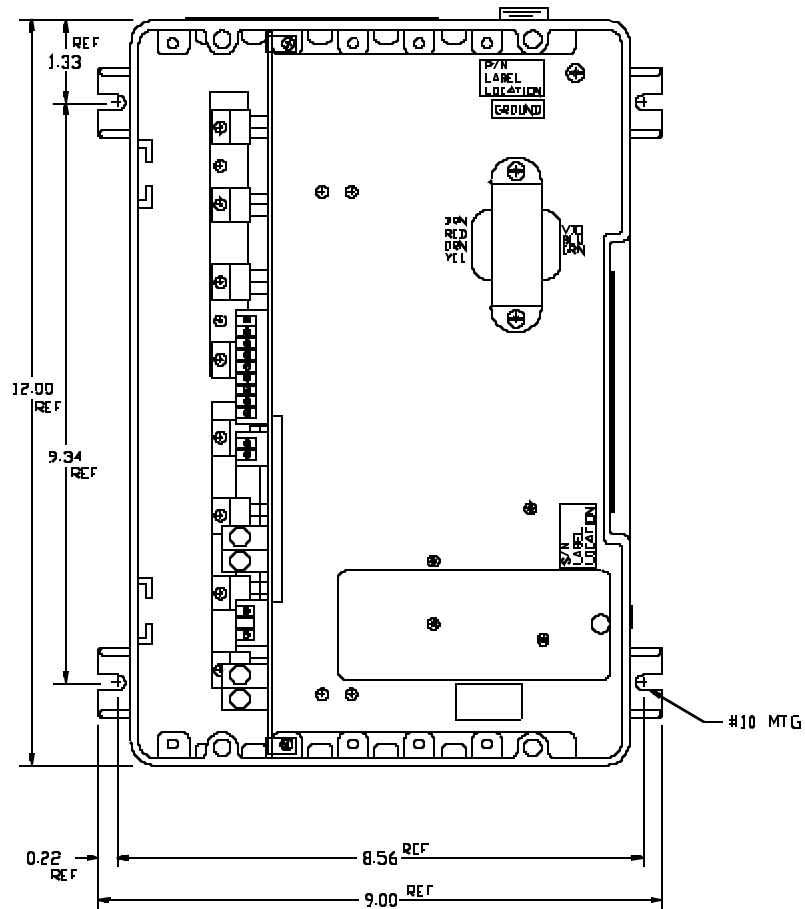

FIGURE 2-4. CONTROLLER MOUNTING DIMENSIONS, MODEL 2242
1. Mount the controller. Mounting dimensions are shown in Figure 2-4, page 2-9.